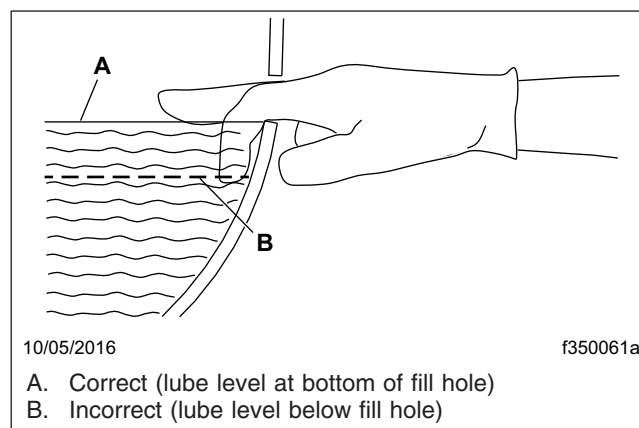

Fig. 1, Axle Lubricant Level Inspection
4. Check that the lubricant is level with the bottom of the fill hole. See Fig. 1. If low, check for oil leaks, and correct as needed. Add oil to the level of the fill plug, using the lubricant recommended in Table 1. See Table 2 for lubricant capacities.